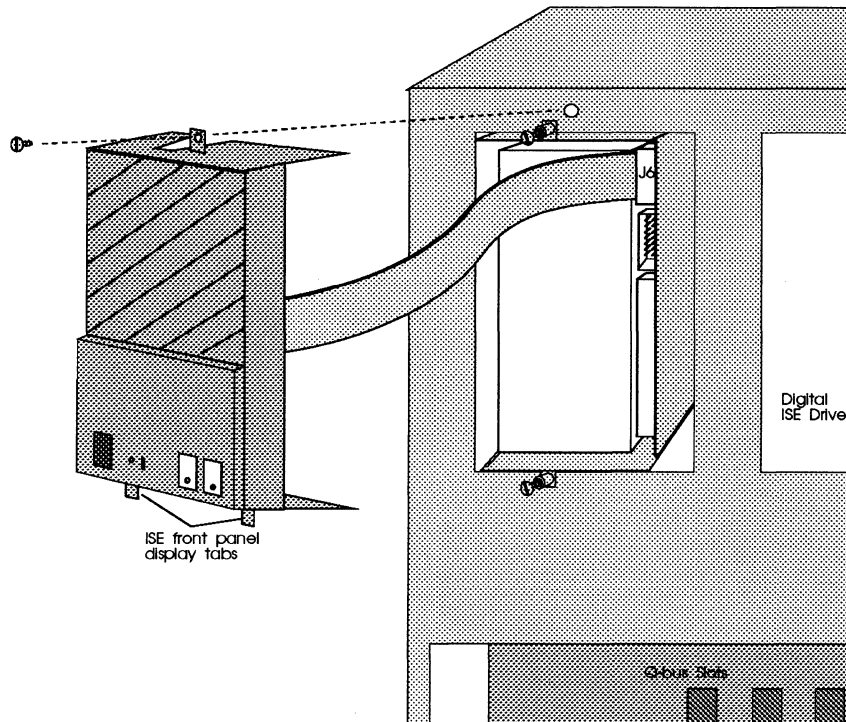

Figure 4-19: CDI-4000-SA1 ISE front panel installation
- 13 Slide the two tabs at the bottom of the ISE front panel display inside the system chassis and slide the top into the system; see Figure 4-19.
- 14 Put one screw into the system chassis through the top hole in the ISE front panel display; see Figure 4-19.